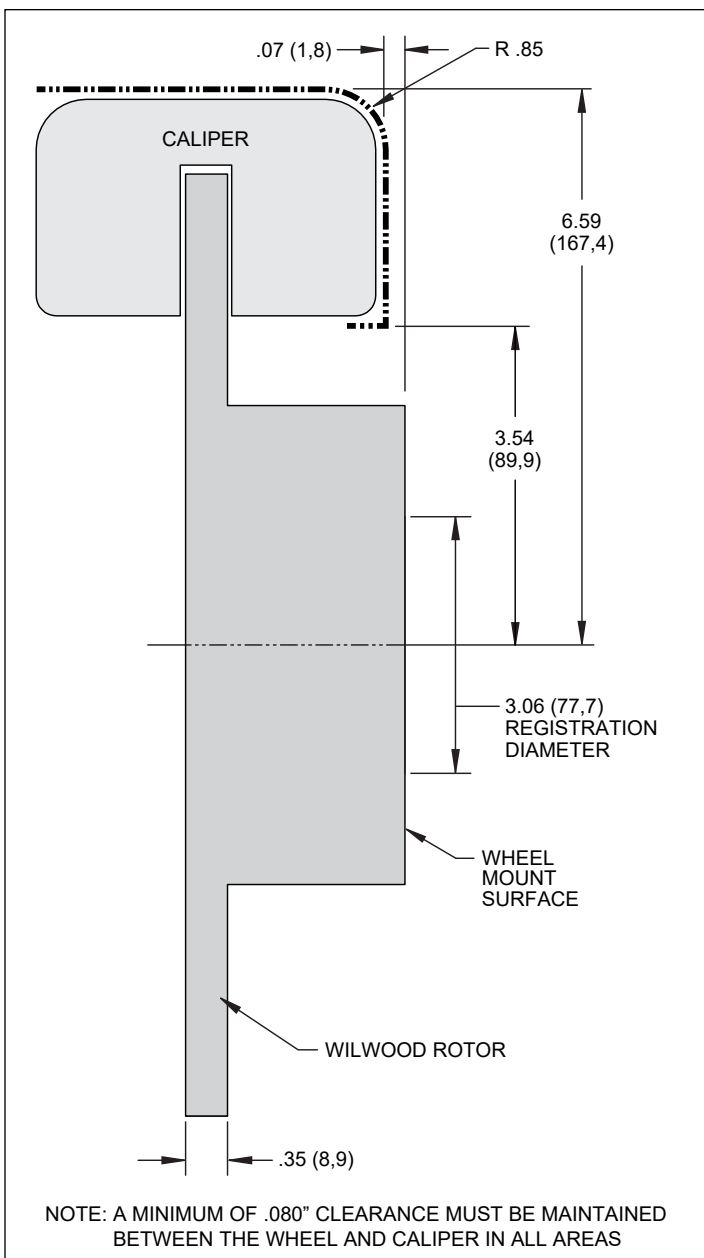

Figure 3a. Wheel Clearance Diagram (p/n 140-17874-D)
- Review the Wheel Clearance Diagram (Figures 3a or 3b, page 4) to verify that there is adequate clearance with the wheels you will be using with the installation.
• Verify wheel clearance using Figures 3a or 3b.